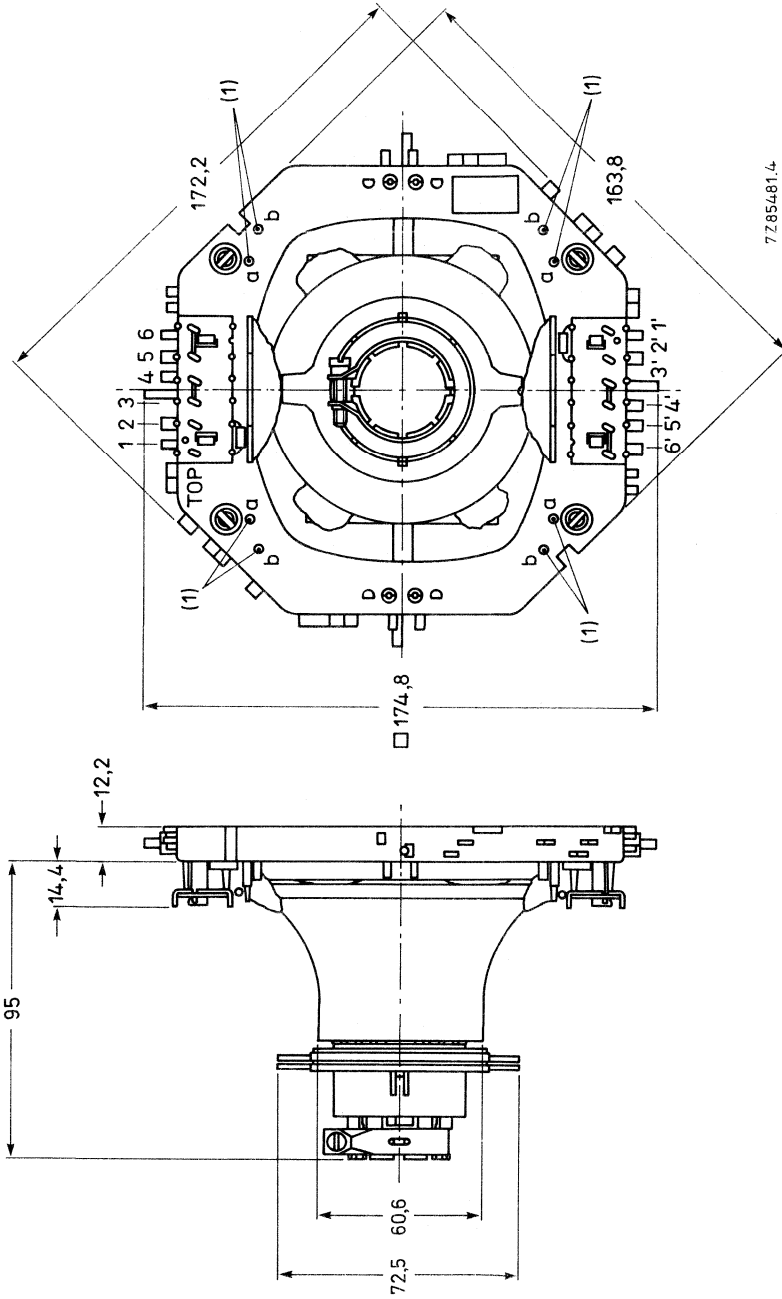
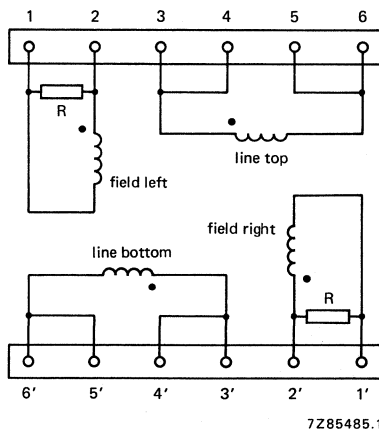

Fig.1 Deflection unit AT1039/03.
Fig. 2 Diagram of line and field coils; R = 270 Ω . The beginning of the windings is indicated with ●.
If a further improvement of raster geometry is required use can be made of correction magnets*, which must be fitted to mounting posts (1). The unit has solder pins for connection. The pin numbering in Fig.1 corresponds to that in Fig.2.